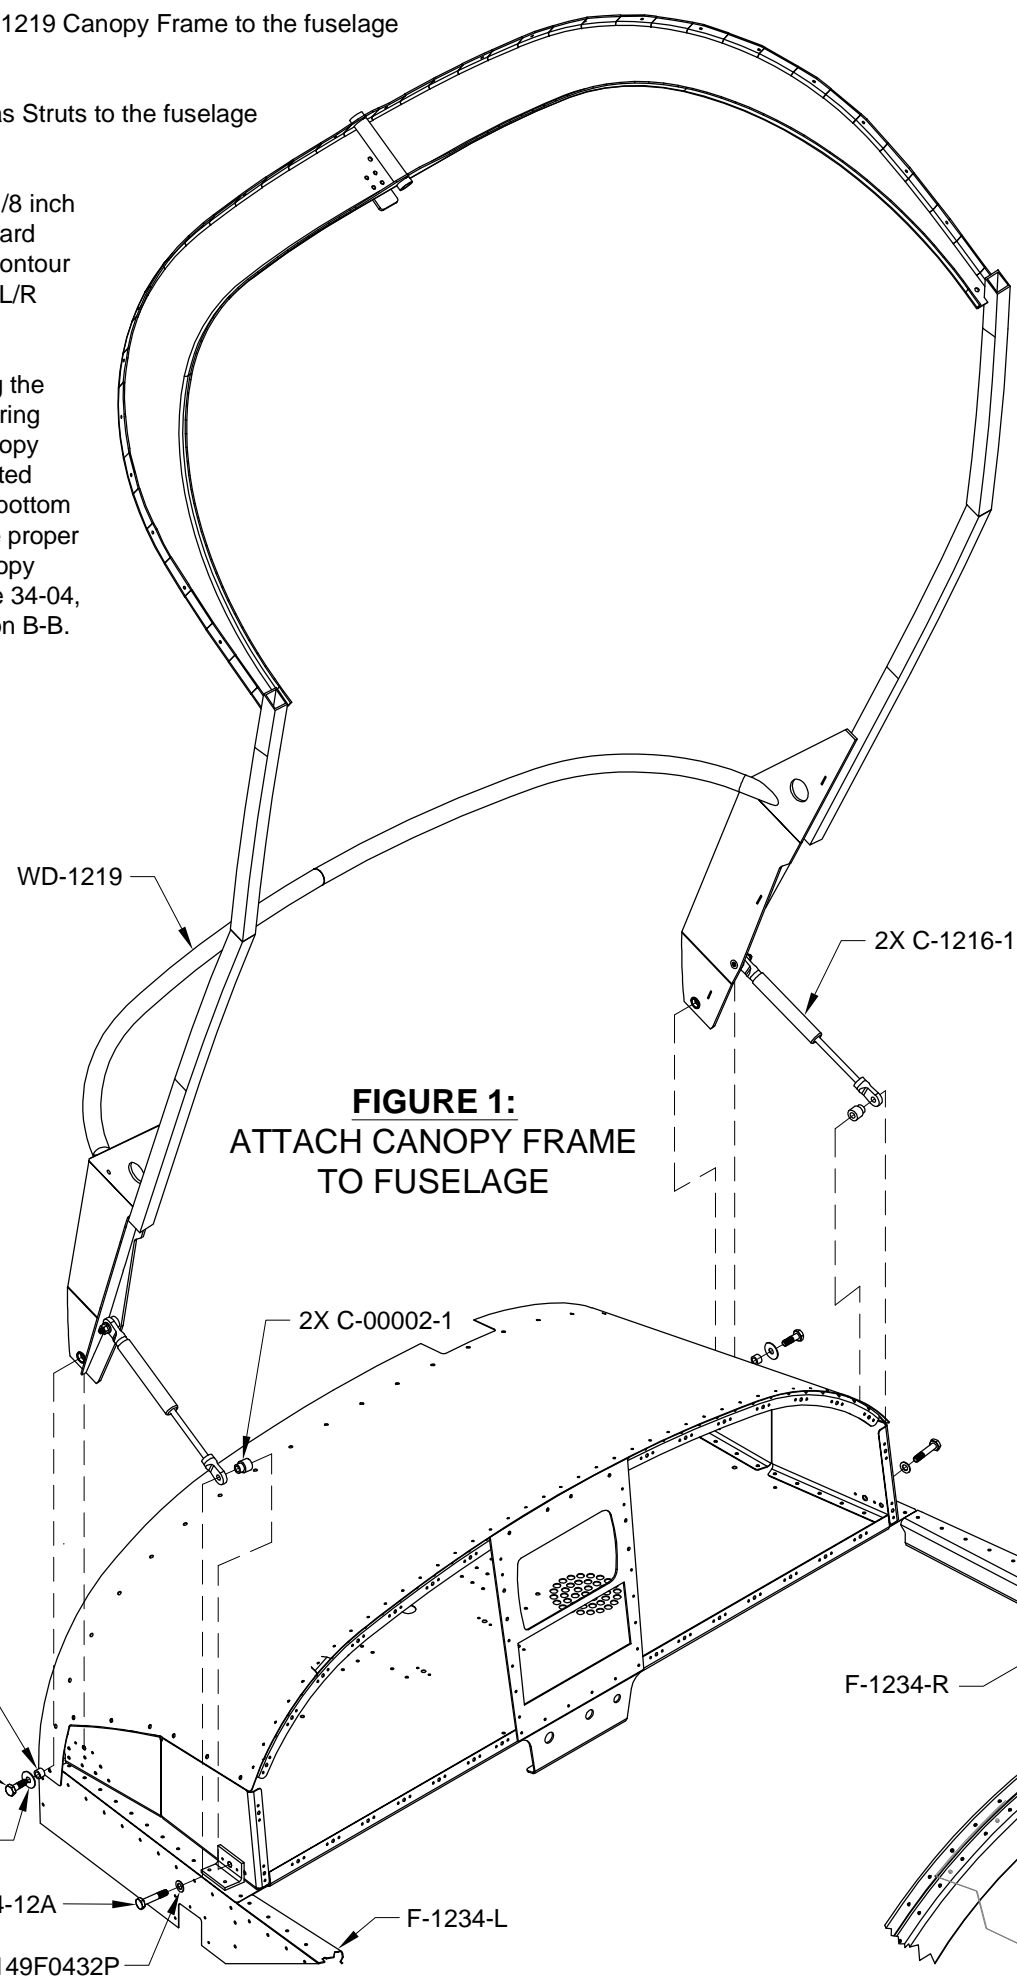

FIGURE 1:
Step 1: Attach the WD-1219 Canopy Frame to the fuselage as shown in Figure 1.
Attach the C-1216-1 Gas Struts to the fuselage as shown in Figure 1.